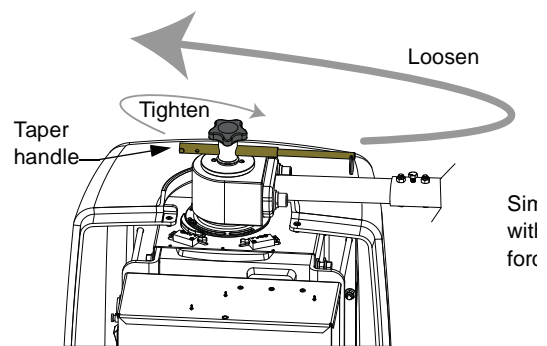

Figure 1a. Taper Handle Location
2. Extend the taper handle and loosen the clamp by turning the handle counter-clockwise. Refer to Figure 1a, below.